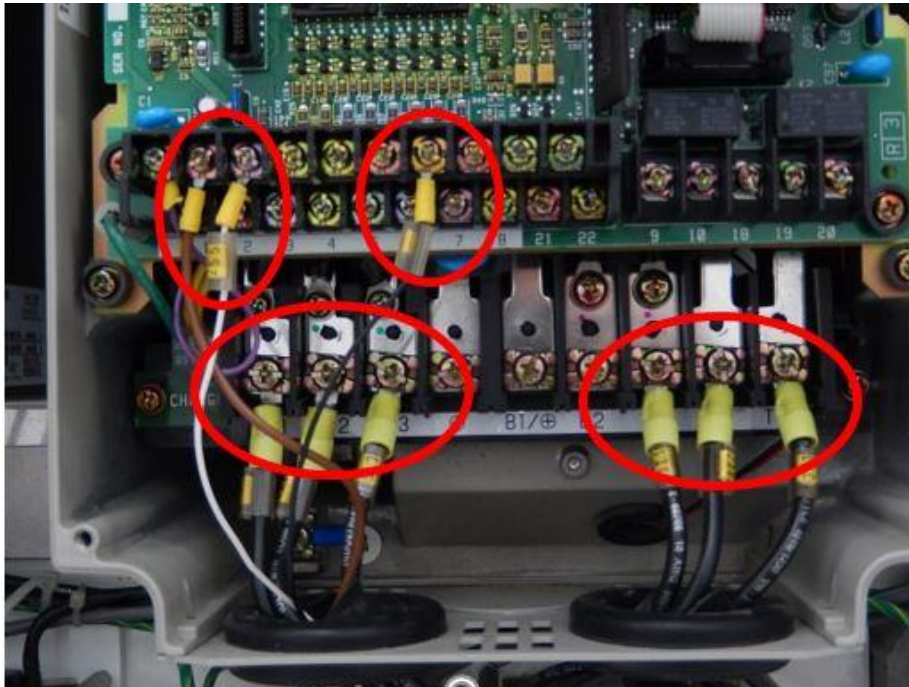

Figure 3: Conductors to be Removed
6.2.2 **Disconnect** all conductors affixed to the driver: 3-phase incoming power (4L1, 4L2, 4L3 for MC1 / 5L1, 5L2, 5L3 for MC11), motor output (1T1, 1T2, 1T3 for MC1 / 3T1, 3T2, 3T3 for MC11), Earth Ground (PE/G), and analog input (253, 70 for MC1 / 255, 70 for MC11) + shield conductor (BRN). Reference IPEC Schematic 472-17300 (Sheet 15 of 47), photograph original connections. See *Figure 3 & 4* below.